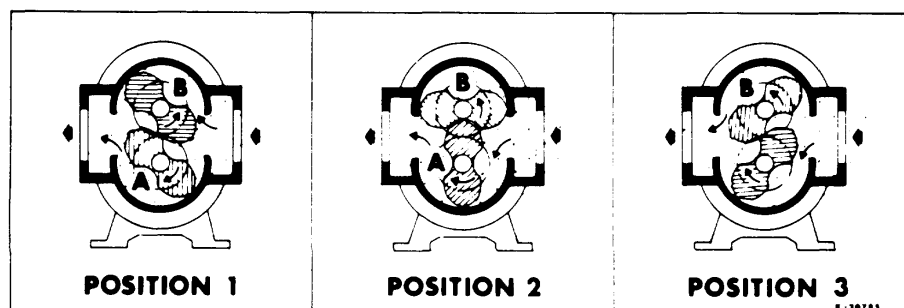

Figure 1-Flow Through a Basic Type RAI Blower.
Operation of the familiar basic rotary lobe blower is illustrated in FIGURE 1, where air flow is right to left from inlet to discharge with the bottom impeller rotating clockwise. In Position 1 it is delivering a known volume (A) to the discharge, while space (B) between the upper impeller and cylinder wall is being filled. Counterclockwise rotation of this impeller then traps equal volume (B) in Position 2, and further rotation delivers it to the discharge in Position 3. At the same time, another similar volume is forming under the lower impeller, and will be discharged when rotation reaches Position 1 again.